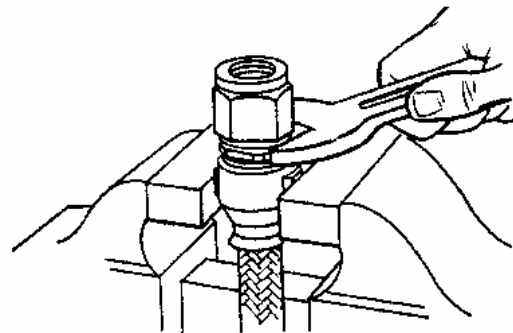

Figure 5. High-Pressure Hose Tightening Assembly
s. Reposition assembly by placing socket flats in vise (Figure 5).